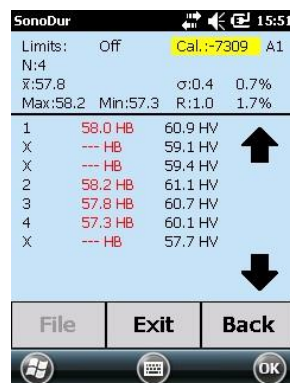

Figure 7.62
- Exceeding the extended conversion limits (extrapolation range)\* an error message „**Outside HB Conversion**“ (if HB scale is selected) will be displayed. These readings are marked as deleted and displayed as --- in the information menu (Figure 7.62). Returning to the measuring menu the latest valid reading will be shown.